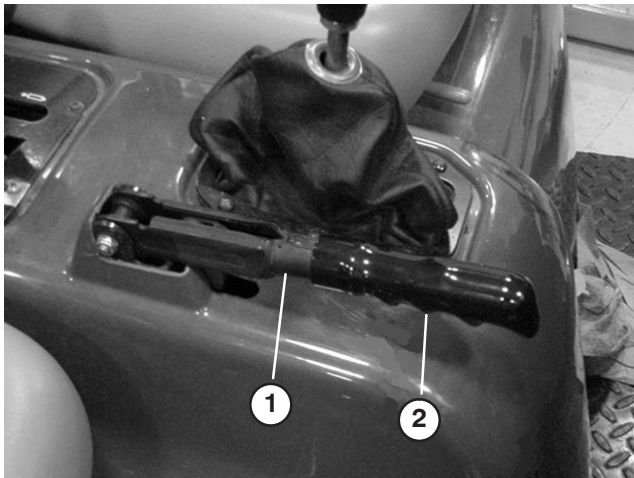

Figure 48
1. Remove rubber grip from parking brake lever (Fig. 48)